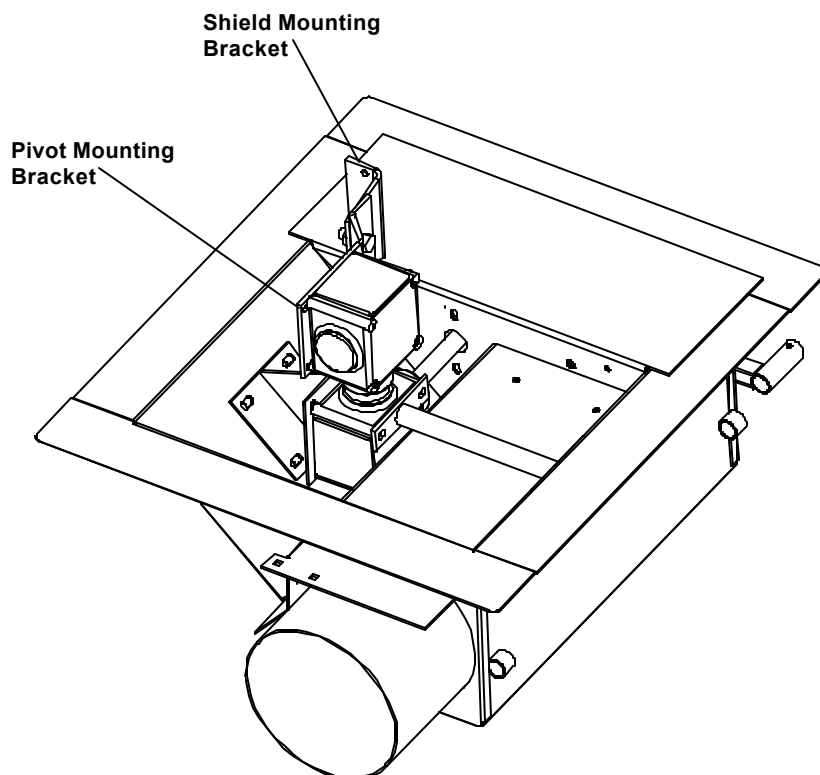

FIG. 11
1. Attach the Pivot Bracket to the left side of the gear box using four (4) 3/8" x 1" bolts, flat washers, & lockwashers. (See Photo 11-D & Fig. 11)
1. Install the first shield to the shield mounting bracket. Secure using two (2) 3/8" x 1-1/4" bolts, flat washers and nylon locknuts. Make sure the nut is on the side of the slotted hole for adjustment. (See Fig. 11 & Photo 11-I)
2. Fasten the shield bracket to the pivot bracket on the gearbox using one (1) 3/4" x 5-1/2" bolt, flat washer and locknut.
3. Install the first and second section of flighting shield to the hanger bearing bracket (when applicable.) Use two (2) 3/8" x 3" carriage bolts, lock washers and nuts to secure these together. (See Photo 11-J)